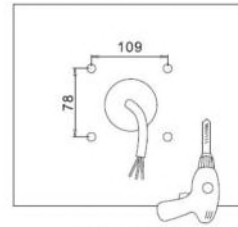

Figure 1-1
1. Cut holes on the wall according to locating plate. (Figure 1-1)